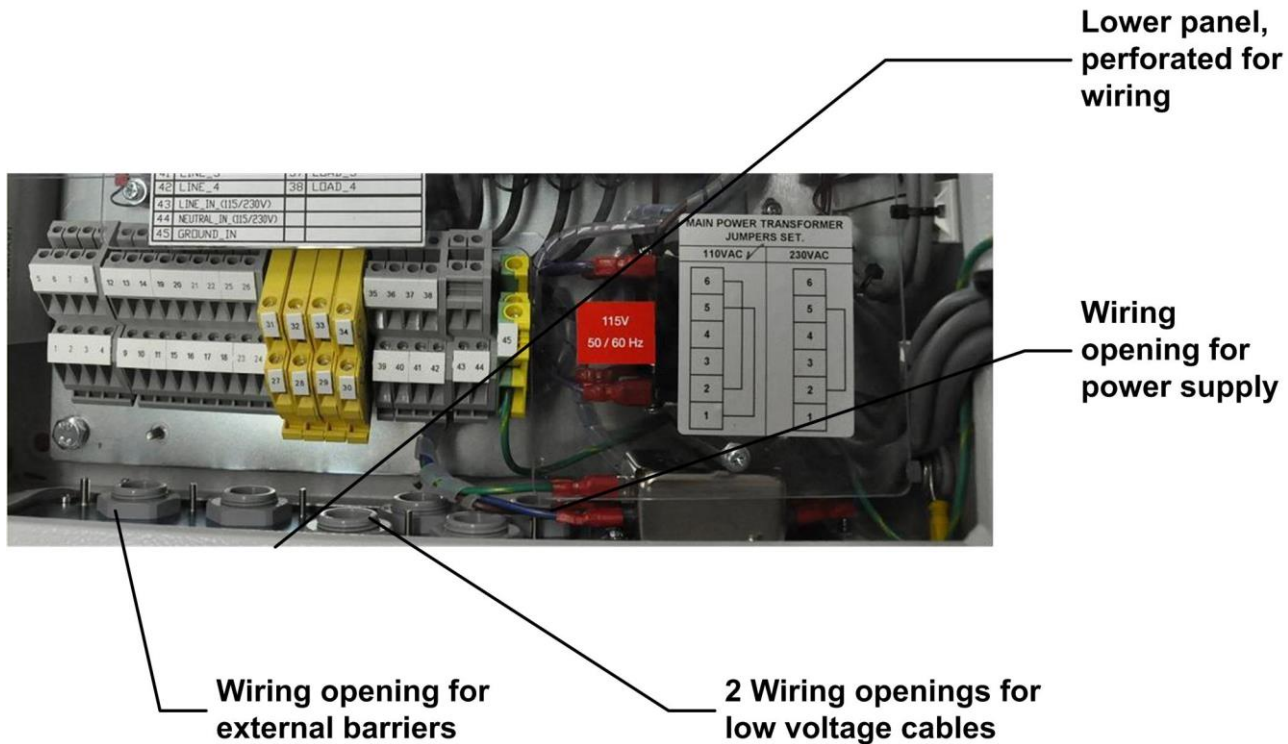

Figure 2-1 CFN PLUS Lower Panel
- All conduits must be inserted in the CFN PLUS enclosure through the openings provided in the bottom panel (see Figure 2-1). Connect the wiring through optional glands or appropriate metal tubing. For UL/cUL listing, this product has only been evaluated for use without the optional glands. If you must make holes at locations other than those provided, contact Gasboy for approval.
The bottom panel in the CFN PLUS includes four openings of 3/4-inch diameter for the insertion of cables into the unit (see Figure 2-1). Connect the wiring through optional glands or appropriate metal tubing. For UL/cUL listing, this product has only been evaluated for use without the optional glands. The cables and wires to/from the other units in the forecourt are connected to the Terminal Block. The cables and wires are inserted through the conduits in accordance with their types and routed to their sources.
This paragraph describes the infrastructure groundwork necessary to install the conduits in the station (see Figure 2-1).